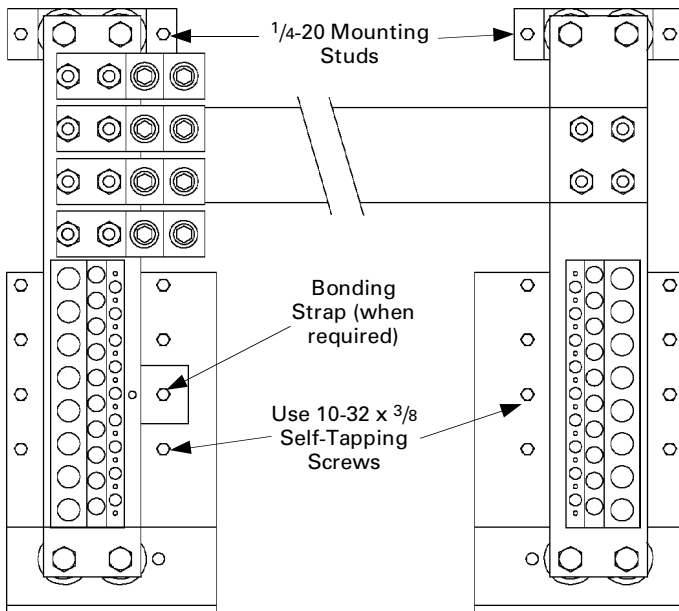
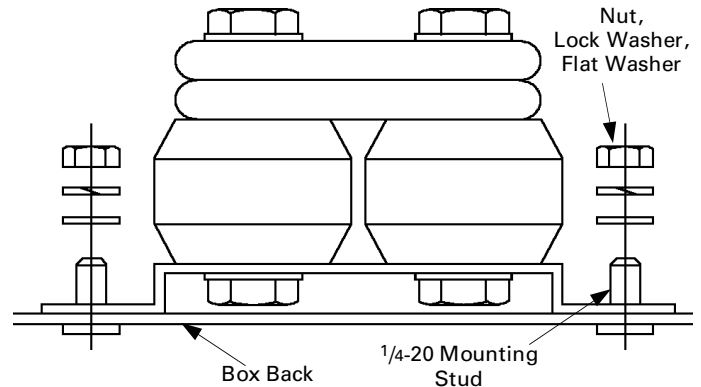

Figure 1. Installing the neutral in the enclosure.
Figure 2. Securing the neutral to the mounting studs.
1. Mount the neutral in the end of the panelboard enclosure marked Incoming Line, onto the 1/4-20 mounting studs, as shown in Figure 1. Fasten with the 1/4-20 nuts, flat washers, and lock washers provided, as shown in Figure 2. Tighten to 27–32 in-lbs.
2. Fasten the opposite end of the neutral to the enclosure with the #10-32 x 3/8" self-tapping screws provided, as shown in Figure 1. Be sure to use all the mounting holes. Tighten the screws to 27–32 in-lbs.